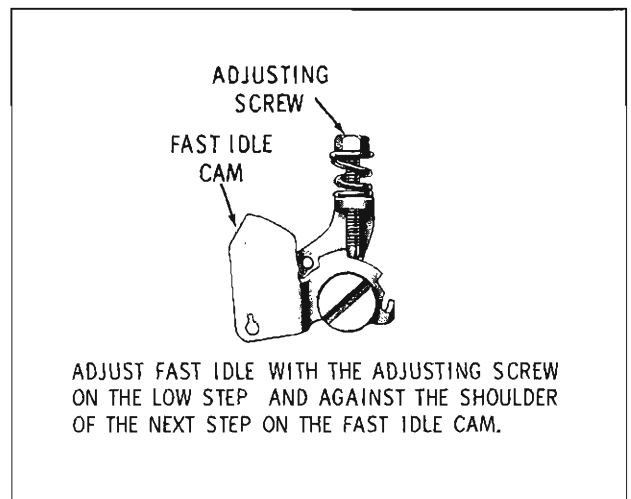

Fig. 4-52 Fast Idle Adjustment
1. Rotate fast idle cam so that the fast idle screw is resting on the low step and against the shoulder of the next step. (Fig. 4-52)